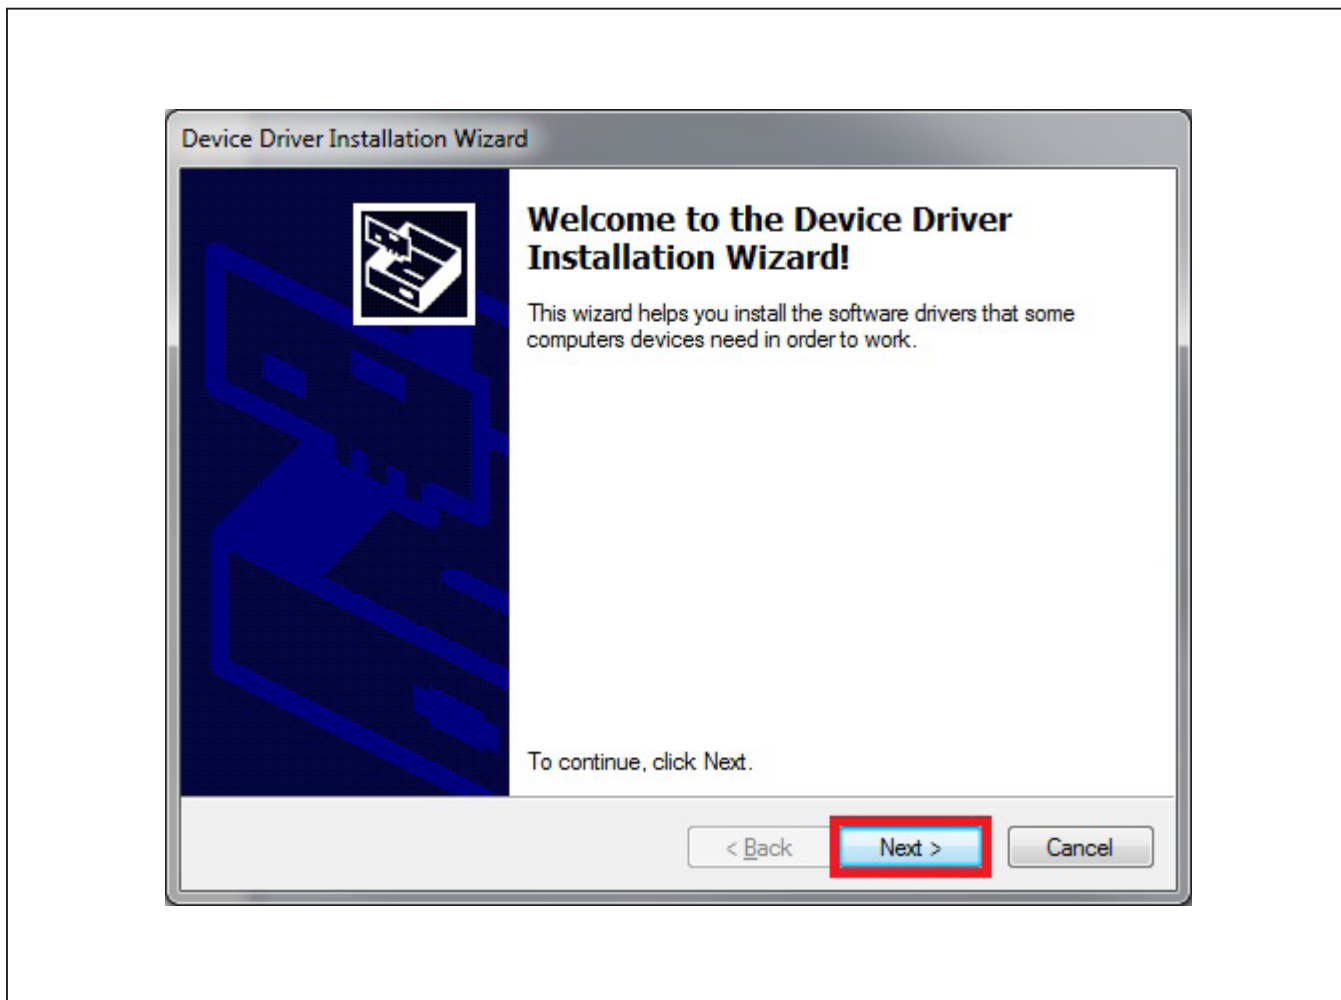

Figure 7. Device Driver
8) Click on **Next** when the Device Driver Installation Wizard appears (Figure 7).